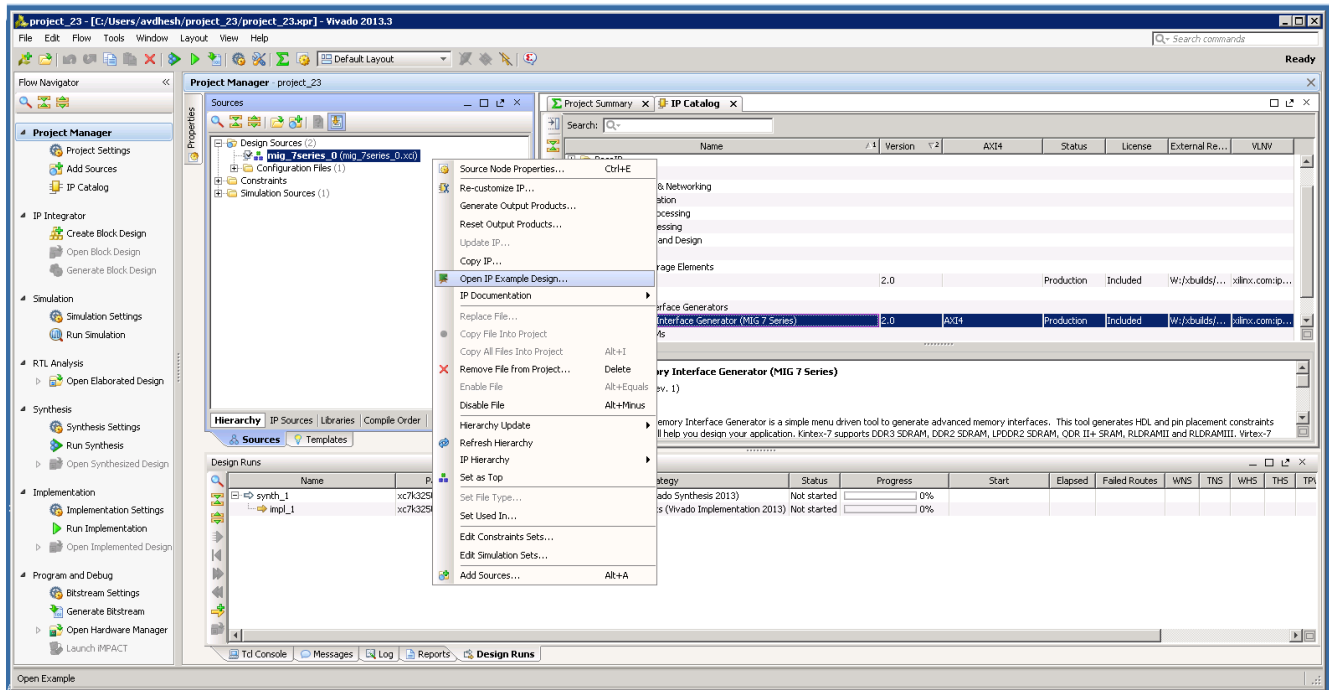

Figure 3-32: Open IP Example Design
9. The Vivado Design Suite supports **Open IP Example Design** flow. To create the example design using this flow right-click the IP in the **Source Window**, as shown in Figure 3-32 and select.